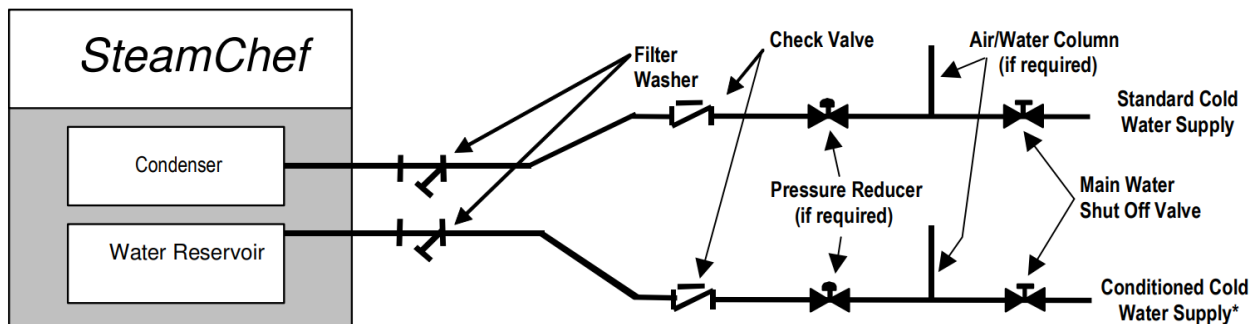

Figure 3-6 Cleveland Range Separate Water Supply Arrangement
- e) If the water supply fails to meet the requirements shown in the Warranty, then use the Separate Water Supply Arrangement shown in Figure 3-6.
single water supply or Figure 3-6 if a separate conditioned water supply is used for the water reservoir feed.